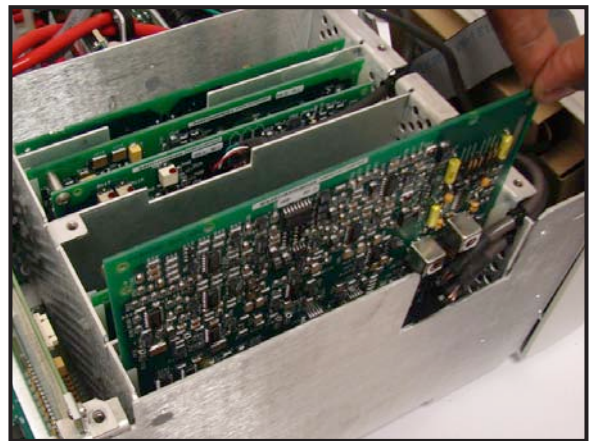

Figure 6-30
6. Pull up the ultrasound board to release it from the front-end motherboard (See Figure 6-30).